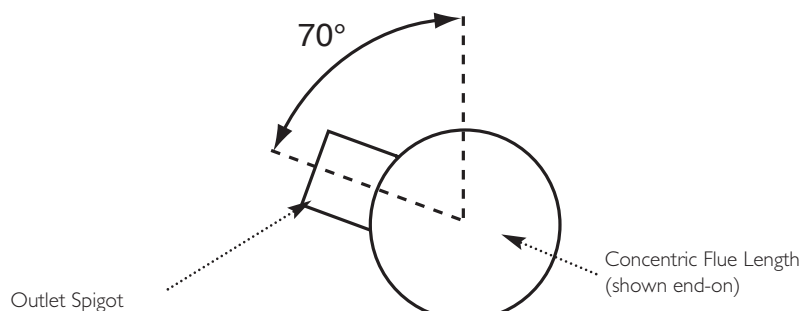

Fig. 29
23. When under balconies or projections it is permissible to rotate the concentric flue length up to 70°, clockwise or anti-clockwise (Fig. 29), if there is insufficient space to connect vertically.